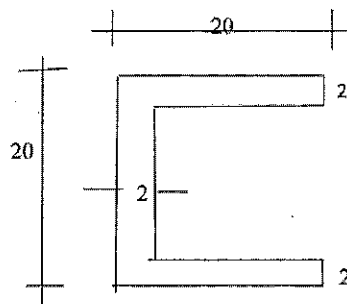

Figure 6
b. State and prove perpendicular axis theorem (4)
13. Determine the moment of inertia of Channel section shown in Figure 6 about the Centroidal XX and YY axes. All dimensions are in cm